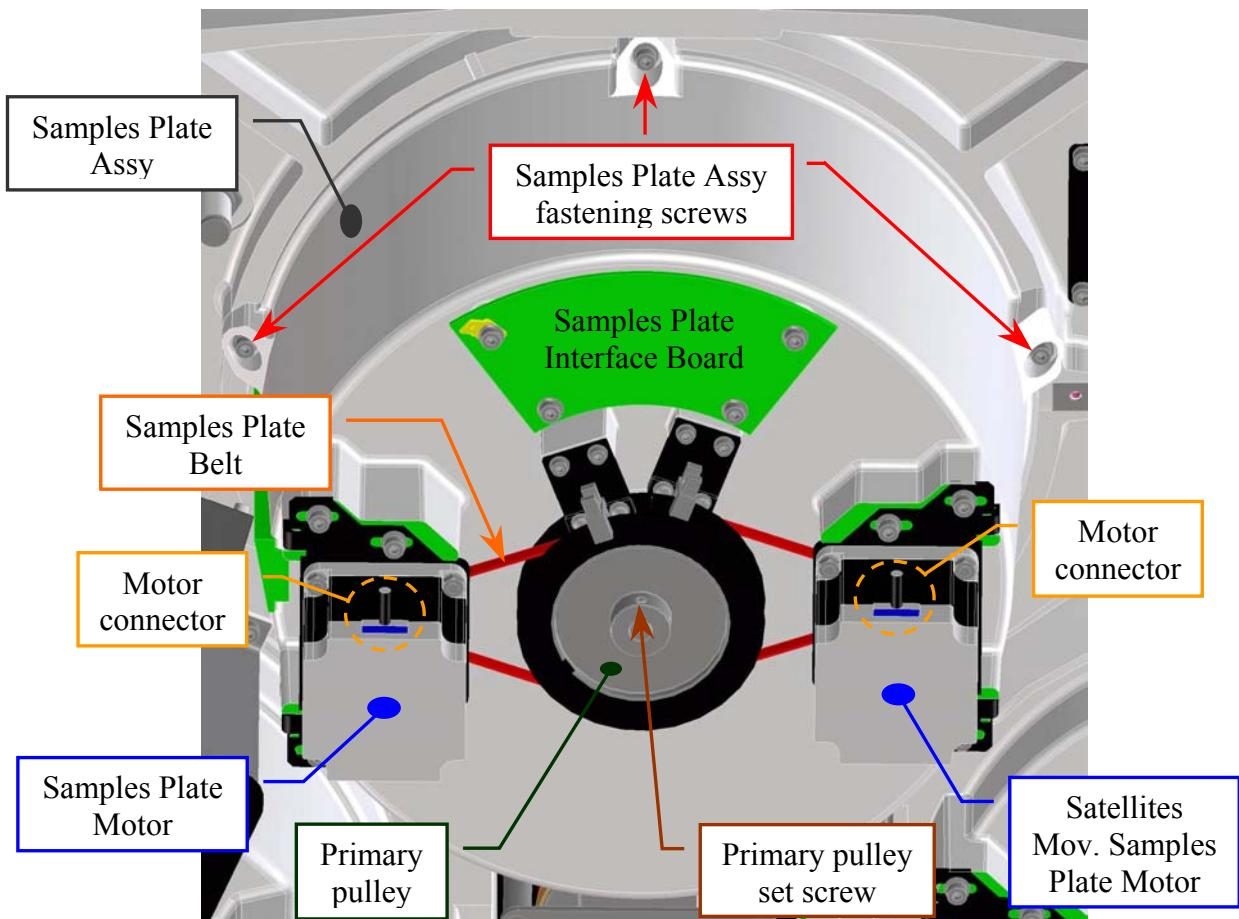

Fig. 94 – Primary pulley of the Samples Plate Assy
- b. loosen the two set screws of the primary pulley of the Samples Plate (**Fig. 94**);
- d. tighten the two set screws of the primary pulley of the Samples Plate (**Fig. 94**);
5. Unscrew the five Samples Plate Assy fastening screws (**Fig. 94**) and take out – moving carefully – the Samples Plate Assy from its housing.
To replace the plate base (Samples Plate support having P/N: 05-02271-00) in the Samples Plate Assy (Fig. 96) and the Samples Plate Assy in the instrument (Fig. 94) perform the following steps:
4. Lock on well the primary and secondary pulley over the container and between them, then tighten the two set screws of the primary pulley and the two set screws of the secondary pulley of the Samples Plate (Fig. 94).